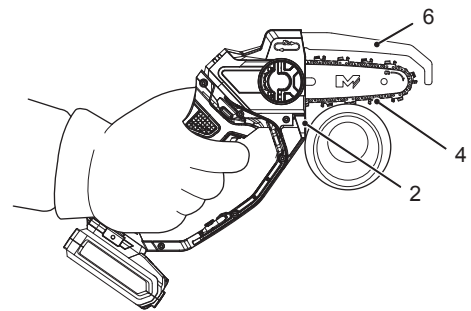

Fig. 13
3. Ensure the saw chain (4) is running at full speed before it makes contact with the wood. Use base plate (2) to secure the product onto the wood before starting to cut and use it as a leverage point while cutting (Fig. 13).
4. Never reach over the riving knife (6) or under the base plate (2). There is a risk of injury!
5. Do not start to run the product if the saw chain (4) is in contact with the workpiece, is in the workpiece or may hit an object. This can lead to serious injuries.
9. When the saw chain is running, first place the base plate (2) on the surface of the workpiece and let the saw cut on its own. Apply only light pressure to the saw. The chain speed should not be much slower.